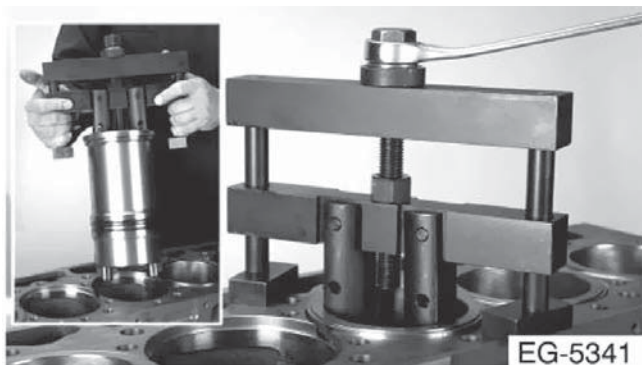

Figure 11-2 Removing a cylinder sleeve. (Courtesy of Navistar)
- 37. Remove the cylinder liners using a suitable puller as shown in **Figure 11-2**. Wet liners are sealed by O-rings and do not usually require a great amount of force to separate them from the block. Dry liners and combination wet/dry liners may require considerable force and hydraulic and air-over-hydraulic pullers along with adapter plates are usually required.